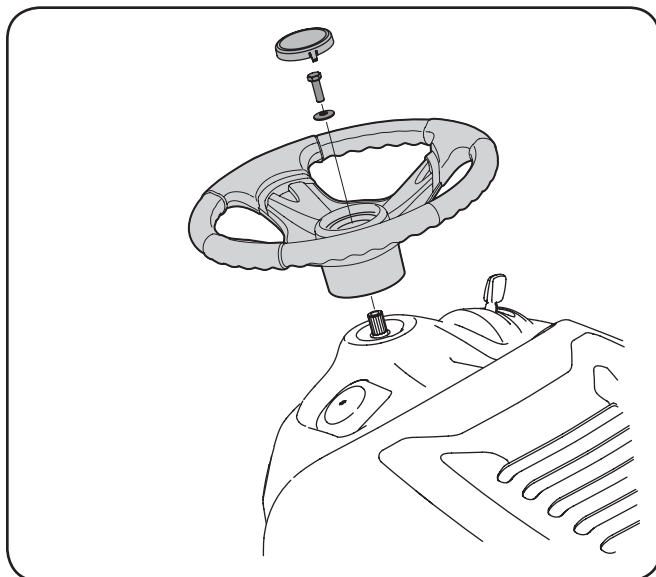

Figure 3-3
2. Place the washer (with the cupped side down) over the steering wheel and secure with the hex bolt. See Fig. 3-3.